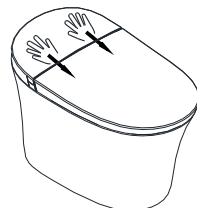

Figure 5
4. Align the decorative panel clips with the grooves on the upper shell, press the panel so it fits tightly, and push it forward about 5 mm until the panel front is flush with the upper shell, as shown in Figure 5.